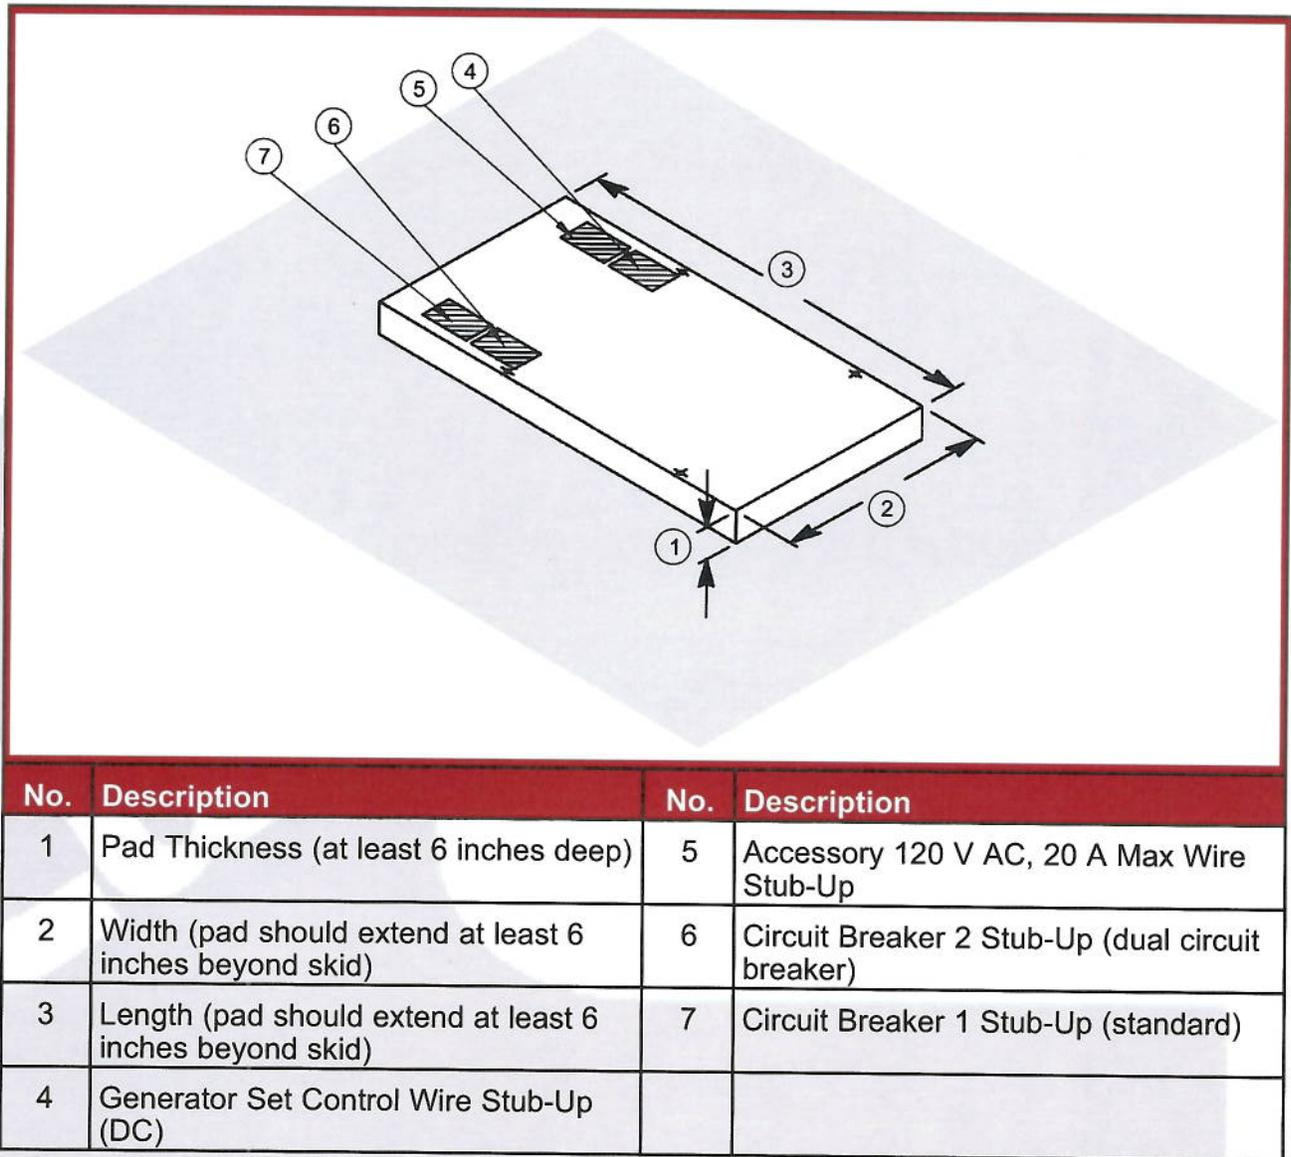

FIGURE 4. CONCRETE PAD PREPARATION
- Install splice cassette in the left slot of the FDU as facing the front of the FDU. Route FO cable in cabinet after splicing and installing the cassette as shown in figure 4.